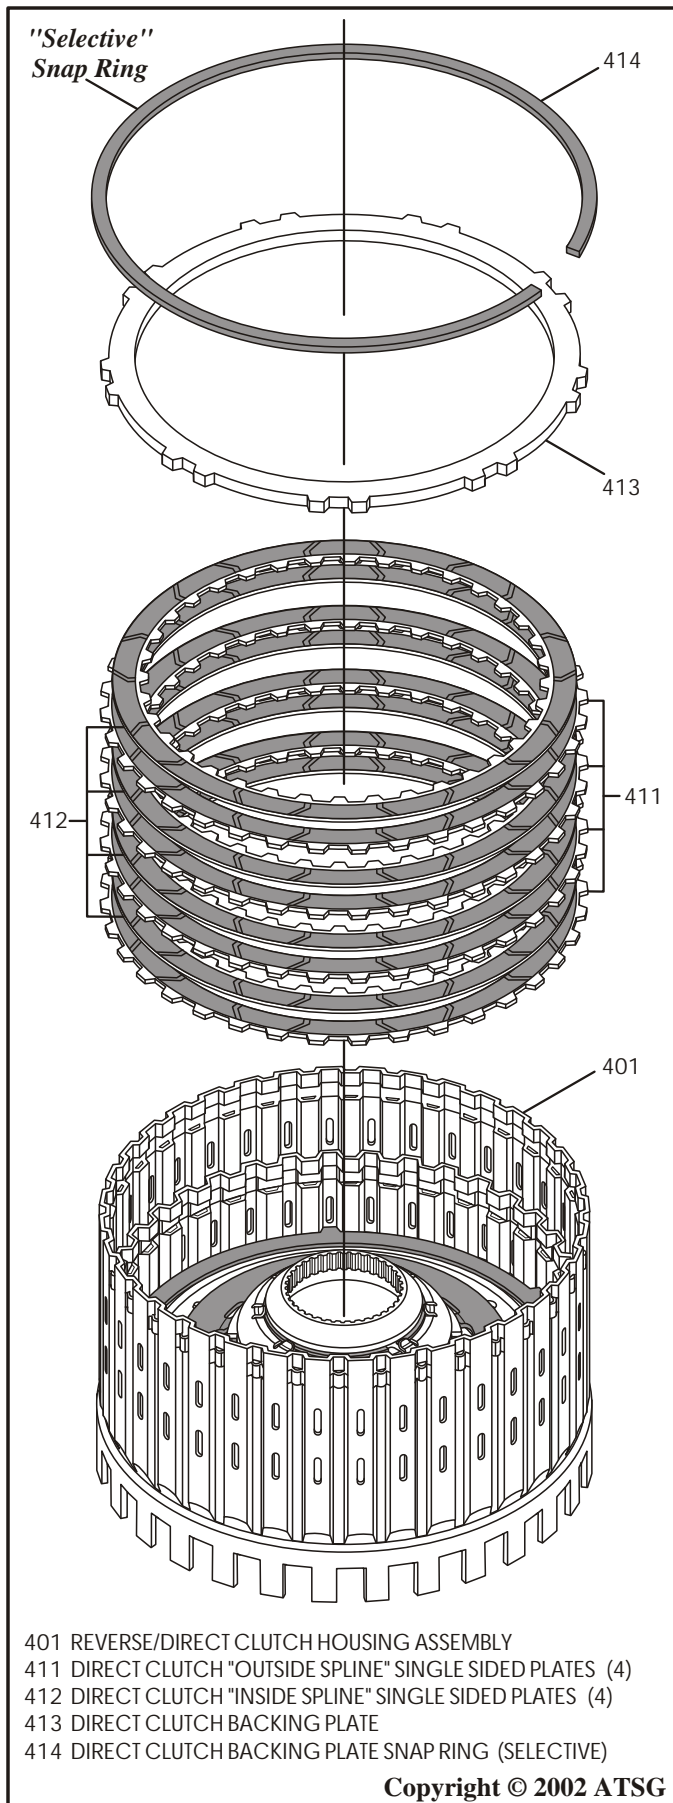

Figure 79
15. Install the direct clutch "single sided" plates beginning with an outside spline plate first and alternating with inside spline plates until you have installed 4 of each, as shown in Figure 79.
16. Install the direct clutch backing plate on top of the last inside spline plate (See Figure 79).
17. Install the "Selective" backing plate snap ring, as shown in Figure 79, and ensure that the snap ring is fully seated against the top of the snap ring groove in housing.